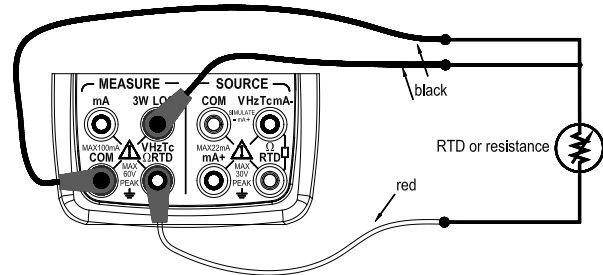

Figure 14 RTD signal with 3w method
### Three wire connection method for RTD signal (Figure 14)
**Step 3:** Connect the lead cables for measurement to the measuring terminals of the measuring instrument under test as shown in Figure 14.